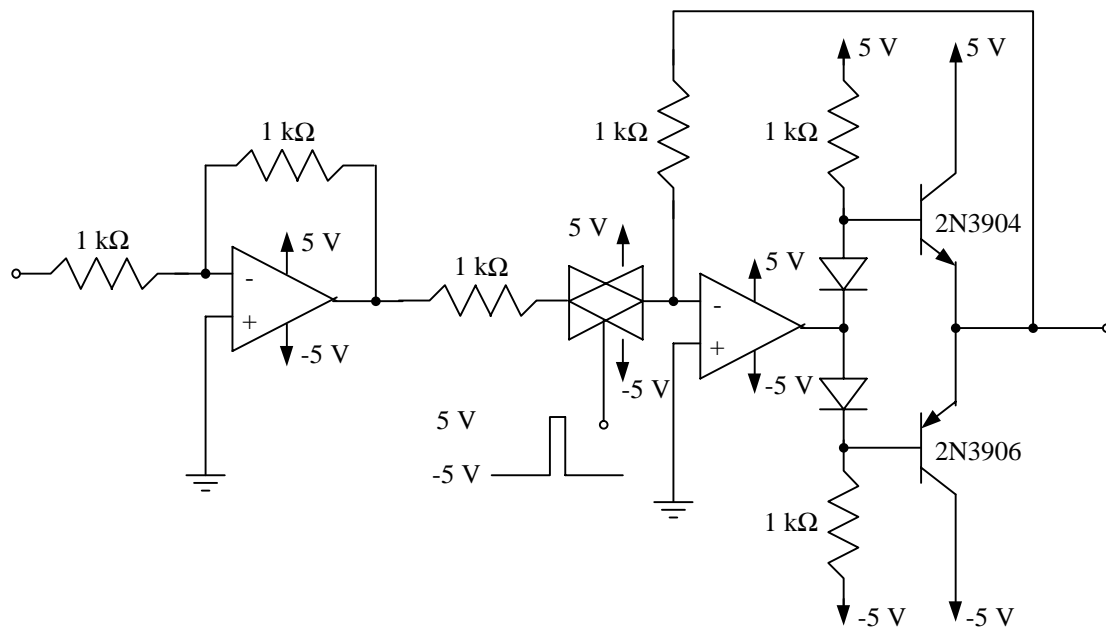

Figure 1: Sampling Circuit
2. Wire up the sampling circuit shown in Fig. 1. You are asked to wire up the circuit ahead of time so that lab time can be used for debugging and for the lab measurements. This sampler uses two op-amps as buffers for a CMOS switch, which takes the samples. The push-pull output circuit provides enough current to drive the 50 Ω orange butterworth filters. Note that the feedback loop goes around the push-pull circuit, making that circuit effectively a part of the op-amp.